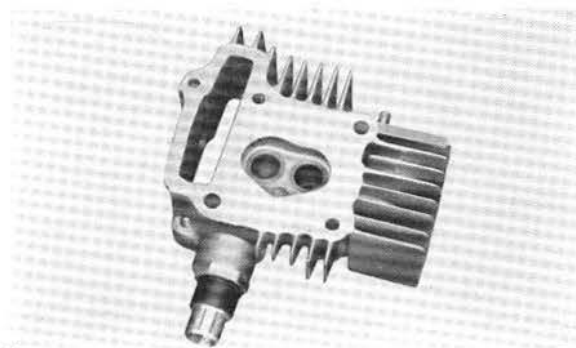

Fig. 2-10 Cylinder head
1. If the cylinder head is not properly torqued, the head will warp or distort due to the high temperature and pressure to which it is exposed. This will result in improper sealing of the cylinder head and cause troubles due to gas leak, air suction and low compression. (Fig. 2-10)